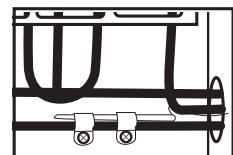

Fig. 1
**CAUTION:** Be careful not to disturb the thermostat and high limit capillaries when cleaning down inside the tank. (Fig. 1)